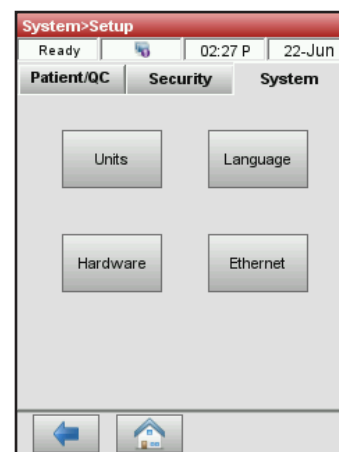

Figure 23. System Manager> Setup screen
2. From the Setup screen, tap the **System** tab and then tap **Units** (figure 23).